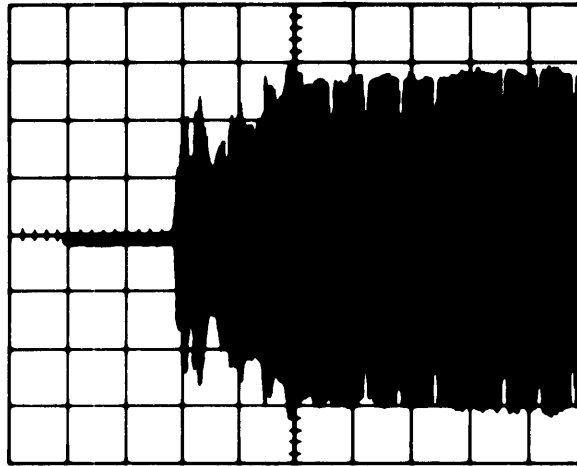

Figure 2-16. Head load Actuator Timing Check Waveform
- e. Check that two pulses are present as shown in the Figure 2-16. The amplitude of the pulses should be approximately 4.0 volts. If the two pulses are not correct, proceed to step f and attempt to obtain the correct signal. If it is correct, the procedure is complete.